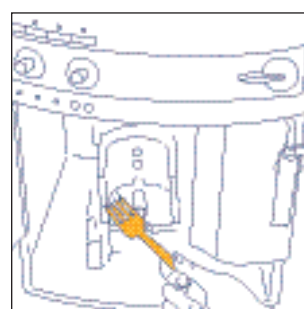

Fig.30
- carefully clean the inside of the machine. To remove the coffee stuck to the parts inside the machine, scrape it with a plastic or wooden fork (Fig. 30) and **then pick up all the residues using a vacuum cleaner** (Fig. 31);